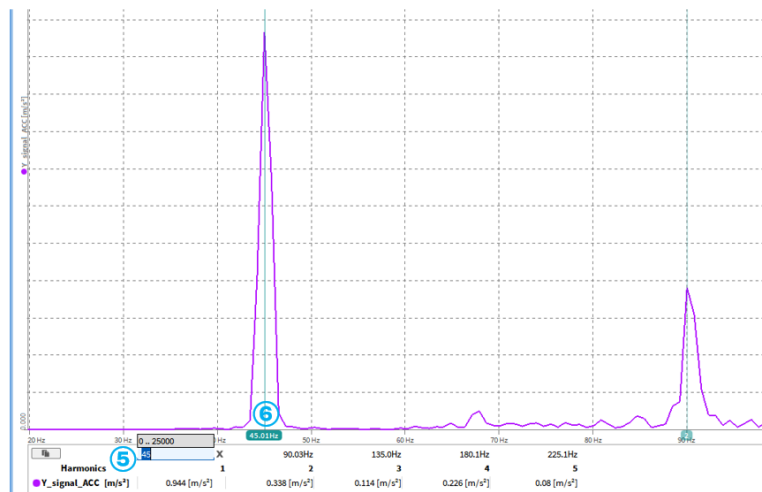

Fig. 8.64: Changing the 1st Harmonics cursor position
The cursor position can be changed by entering a new frequency for the first harmonic (see ⑤ in Fig. 8.64). It is also possible to move the first harmonic cursor with the left mouse button (see ⑥ in Fig. 8.64). The position of the higher harmonics is automatically adjusted.